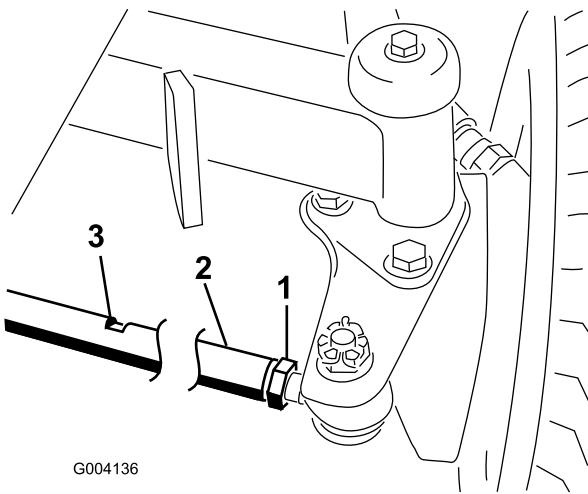

Figure 57
2. Loosen the jam nut on each end of the tie rod (Figure 57).